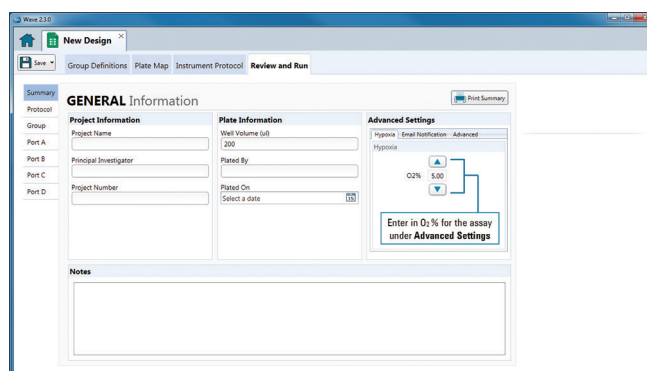

Figure 6. Advanced Settings on the Review and Run tab.
- c. **Review and Run tab:** In Advanced Settings, define the O_2 % for the XF assay (Figure 6).